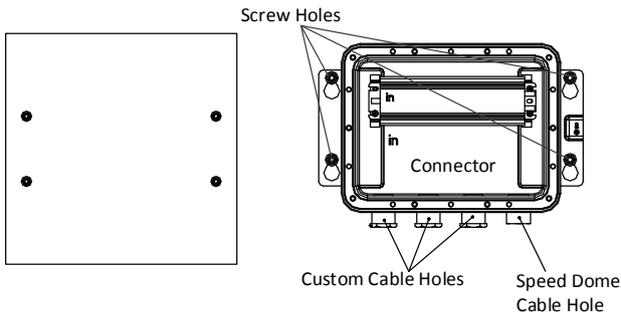

Figure 2-27 Install the Gang Box Type I
- 1) Drill 4  $\phi 9$  screw holes for expansion screws as shown in Figure 2-27.